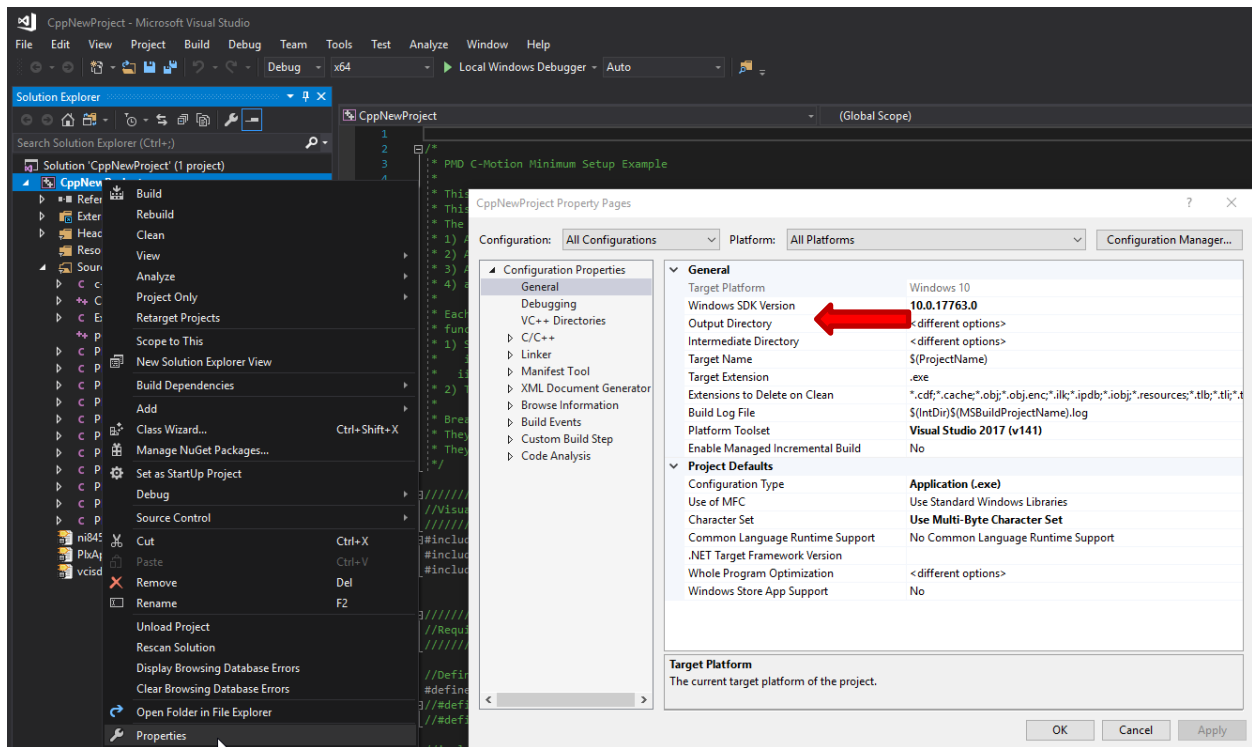

Figure 38 - VS2019 Output Directory
- 11) Once the project has been “Built” or compiled, it can also be run by using the generated “projectname.exe” file found at the debug output location, the typical default is below, and can also be found by browsing through project properties, in “General” and selecting the output directory, per Figure 38 - VS2019 Output Directory